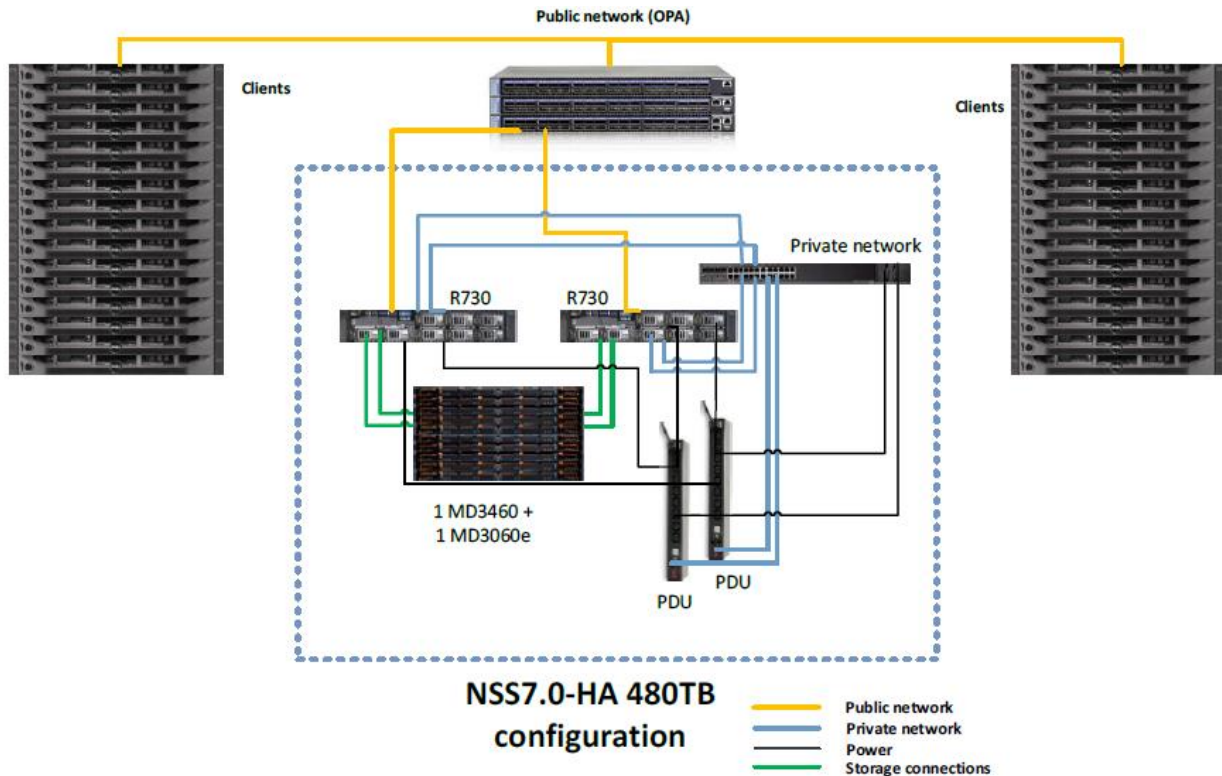

Figure 2 NSS7.0-HA test bed
The test used to evaluate the NSS7.0-HA functionality and performance is shown in Figure 2. The following configuration was used.
- Both NFS servers were connected to a shared Dell PowerVault MD3460 storage enclosure extended with one Dell PowerVault MD3060e storage enclosure (Figure 2 shows a 480 TB solution with the two PowerVault MD storage arrays) at the back-end. The user data is stored on an XFS file system created on this storage. The XFS file system was exported to the clients by using NFS.